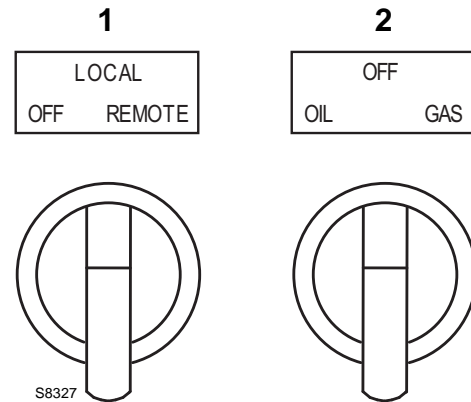

Fig. 47
Set switch 1)(Fig. 47) to "LOCAL".
Set switch 2)(Fig. 47) to "GAS".
- 1 using switch 2)(Fig. 47);
By setting switch 1)(Fig. 47), to “remote” you activate the remote fuel selection facility.